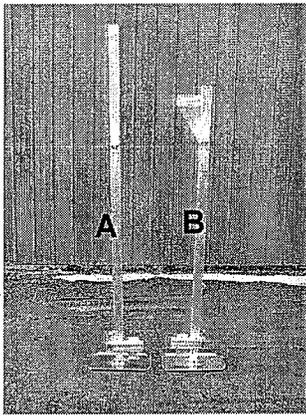

FIG. 4
1. Locate winch corner post **A** and corner post **B** shown in FIG. 4.